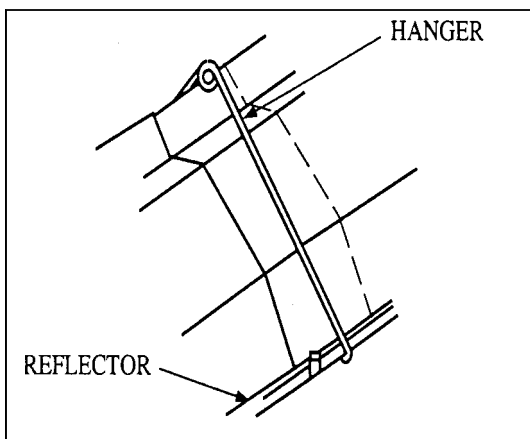

Figure 1-7
10. Slide reflectors through the wire hangers and overlap approximately two inches for support (Figure 1-7).